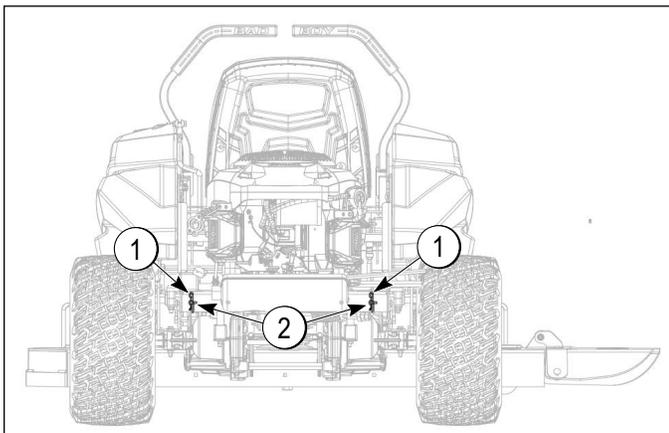

Figure 6-3
The transaxle bypass rods (1) are located at the rear of the machine shown in Figure 6-3. The transaxle bypass rods serve as a neutral for moving the machine while the engine is not running.
2. Pull the rods out and lock them into place using the cotter pins (2), to activate the bypass.